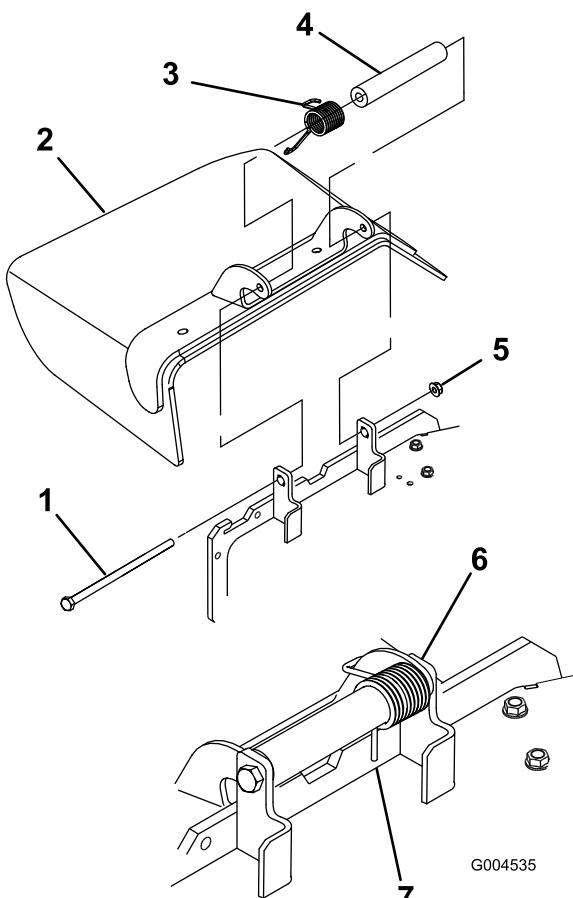

Figure 1
3. Remove the locknut, bolt, spring and spacer holding the deflector to the pivot brackets (Figure 1).